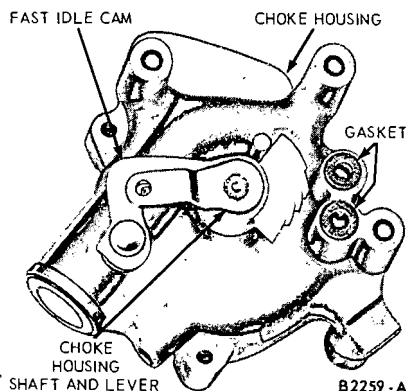

FIG. 20—Choke Housing Linkage Installed—Holley 4-V
2. Position the choke thermostat lever link and piston assembly in the choke housing. Position the fast idle cam assembly on the choke housing and install the choke housing shaft and lever assembly (Fig. 20). Position the lever and piston assembly on the choke housing shaft and lever assembly. Install the spacer, lock washer and nut.